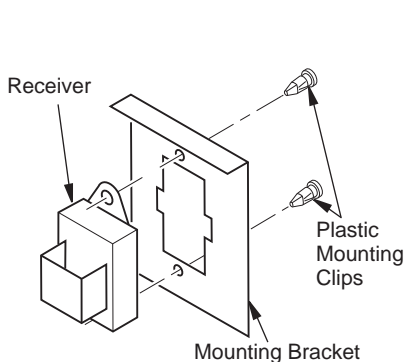

Figure 15 - Installing Remote Receiver (Shown from Rear of Mounting Bracket)
3. Install remote receiver unit onto mounting bracket using two plastic mounting clips (see Figure 15).